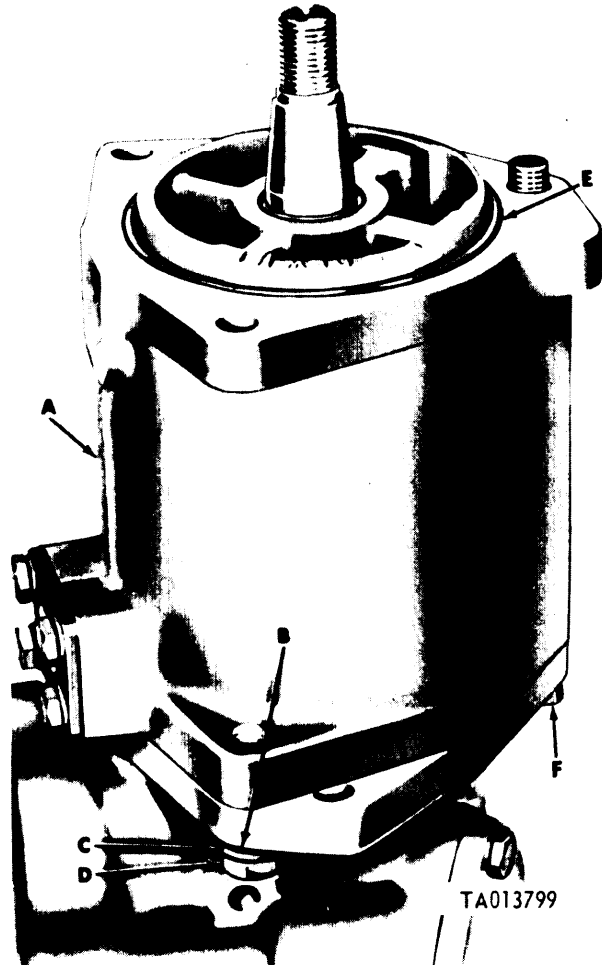

Figure 3-135. Installing timing device housing.
(1) Refer to figure 3-135. Install bolt (F) in pump and timing device housing before assembly of timing device housing to pump housing. Install timing device housing (A), after checking to see if pump housing packing is in position, and secure with two flat washers (B), lockwashers (C), and machine screws (D). Torque tighten machine screws to 17-20 foot-pounds. Install housing packing (E).